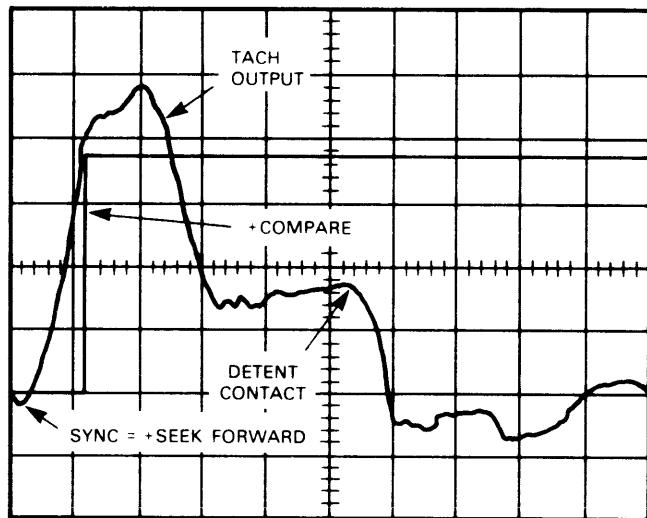
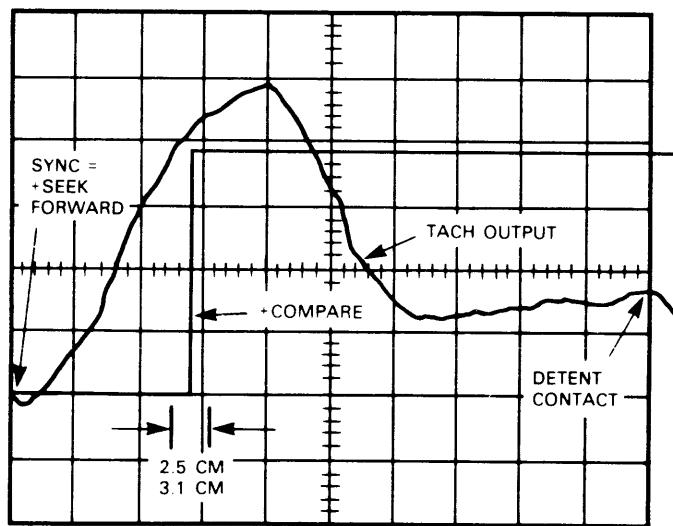

FIGURE 5-6a. CYLINDER COUNT LOCATION WAVEFORM (1 msec/cm)
FIGURE 5-6b. WAVEFORM OF CYLINDER COUNT LOCATION EXPANDED (0.5 msec/cm decalibrated)
4. Perform sequential one-track forward seeks and observe the waveform as shown in Figure 5-6a. Change the horizontal time sweep to 0.5 msec/cm and decalibrate the oscilloscope time base to extend the Tach Amp profile over the 10-cm scale as shown in Figure 5-6b (arrow points to reference knee). The signal, Compare, must go high within 2.5 to 3.1 cm on all one-track forward seeks.